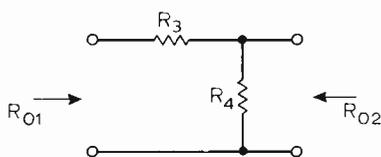

Fig. 6. Matching pad for joining two different impedance levels.
Such a matching pad is shown in Fig. 6. It has the property that the resistance looking into the left-hand terminals is  $R_{01}$  when the right-hand are terminated by  $R_{02}$  and conversely, where  $R_{01} > R_{02}$ . The basic equations are
This is a case where the matching pad of Fig. 6 comes in, as was pointed out earlier, for matching 75 Ω to 50 Ω,  $R_3$  is 43.3 Ω with  $R_4$  86.6 Ω. It is now necessary to find out the input impedance  $Z_{in}$  of this section when it is terminated by  $Z = r + jX = 10 + j150$  instead of by  $R_{02} = 50 \Omega$ . Equation (4) applies if we write  $Z_{in}$  for  $R_{01}$  and  $Z$  for  $R_{02}$  to get